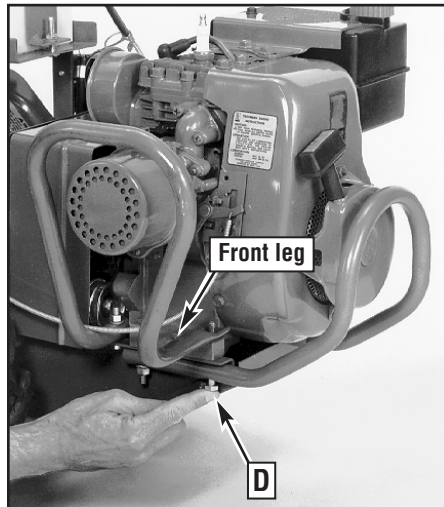

Figure 6: Insert screw (D) up through front bumper, engine support bracket, engine base and front leg of side bumper. Loosely add a lock washer and nut.
5. While still on the right side of the engine, insert a new 2-1/2-in. long screw (D, Fig. 6) up through the holes in the bumper leg, the engine support bracket and the engine base. Loosely add a spring lock washer and hex nut.